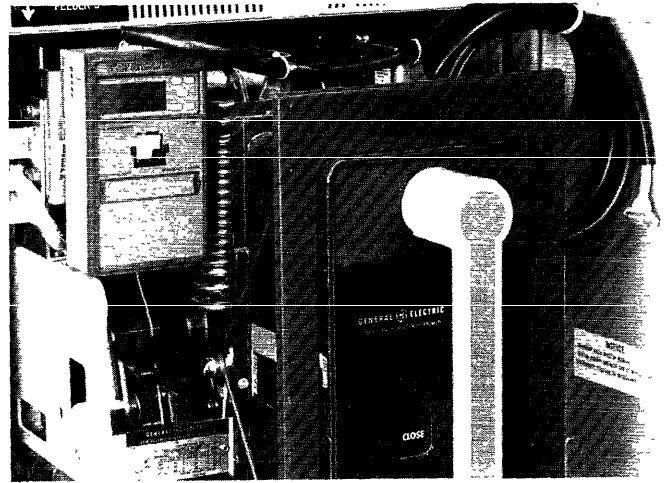

Figure 4. Routing the Remote Display Harness.
7. Route the Remote Display Harness across the top front of the breaker frame, using the cable ties provided to secure the Harness to the breaker. Avoid placing the harness near any of the charging springs or mechanism parts. Route the Harness so that any extra cable is near the hinge on the door. A suggested cable route is shown in Figure 4.